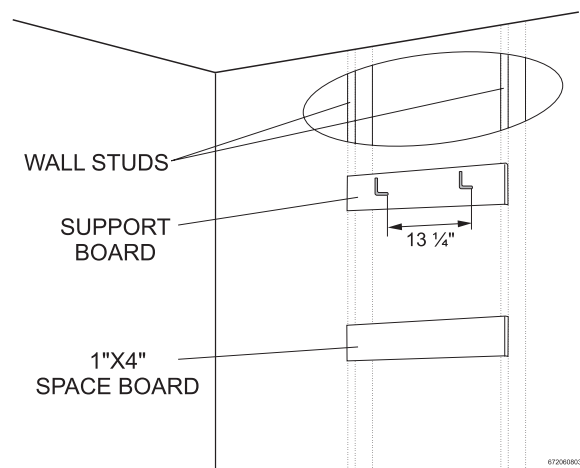

Fig. 7 Support board
- ▶ Secure the two included L shaped brackets to wall studs or support board 13 1/4" apart. (See Fig. 7).